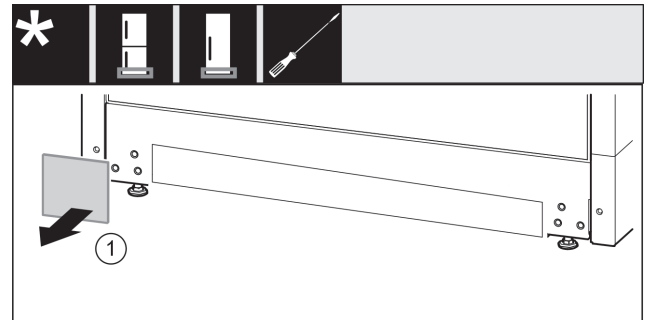

Fig. 17
- ▶ Take off the cover. Fig. 17 (1)